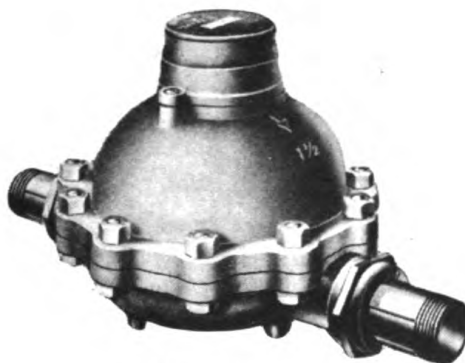

FIGURE 44
**Water Meter** - Fig. 44 this records the amount of water pumped to the Pugmill, in gallons, on a register and dial.